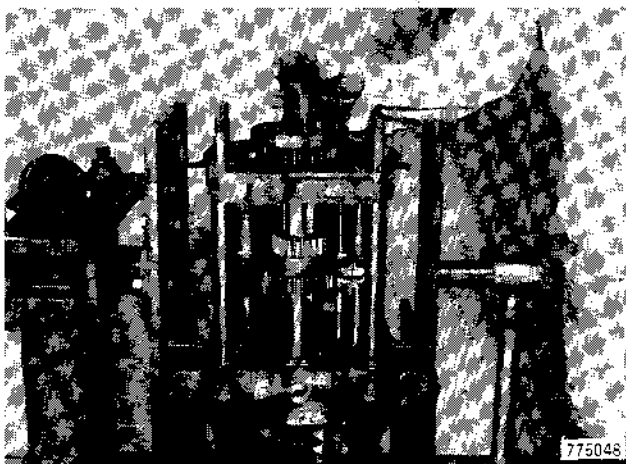

Figure 50
- 22. Remove spacer from reverse gear, Figure 50.